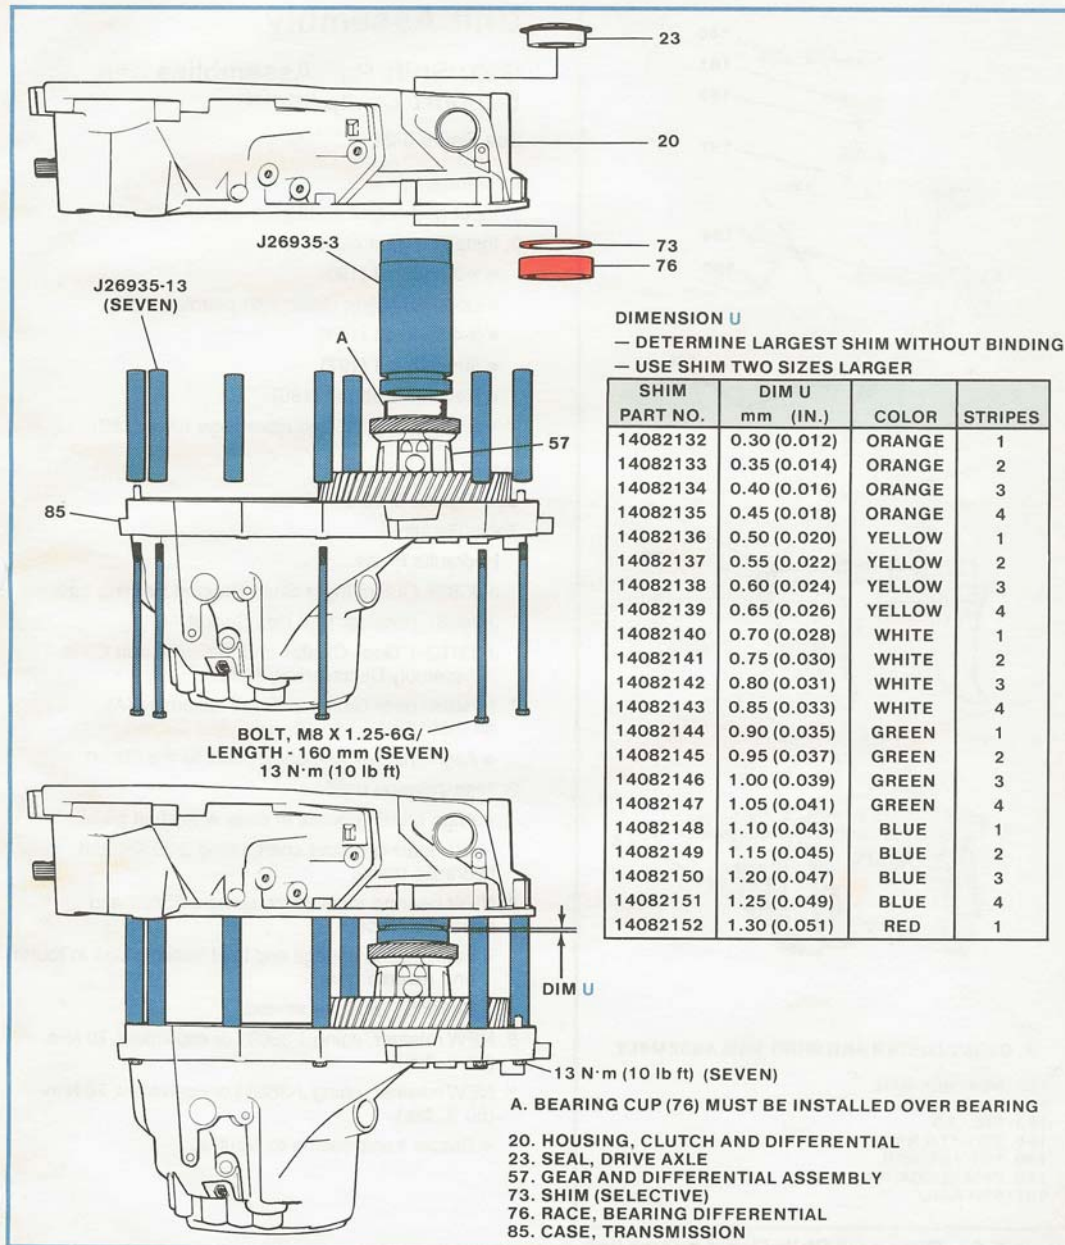

Figure 5-23, Differential Assembly Selective Shim Preload Procedure.
See Figure 5-23 ...
1. J-26935 to clutch housing (20) and transmission housing (85).
2. Measure largest shim (73) possible in area "U"; use shim TWO SIZES LARGER (See Chart, Figure 5-23).
3. Selected shim (73).
4. Bearing race (76). Use J-26938 and J-8092 and hammer.
5. Axle seal (23). Use J-26938 and J-8092 and hammer.